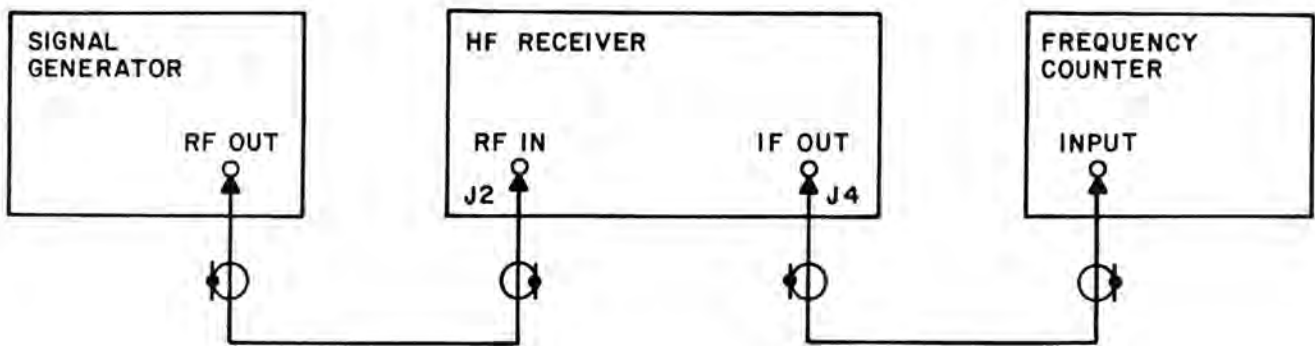

Figure 4-4. Frequency Tuning Performance Test
1. Connect the test equipment to the receiver as shown in Figure 4-4.